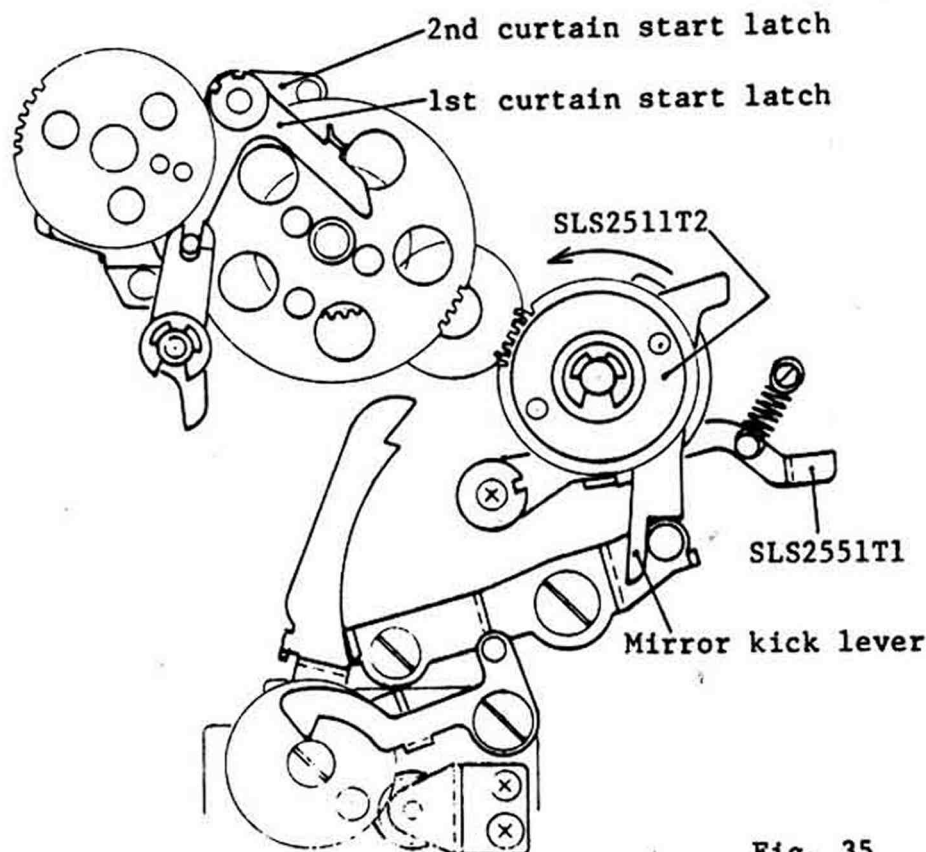

Fig. 35
- 2) As it has been explained at Fig. 35, first the 1st curtain start latch should be set with sound "click" and then the 2nd curtain start latch.